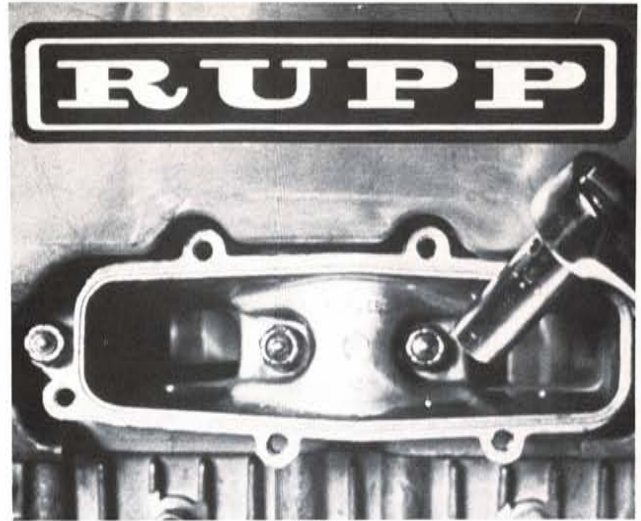

FIG. 9
7. Next remove the four nuts that secure intake manifold to cylinders. (Fig. 9)